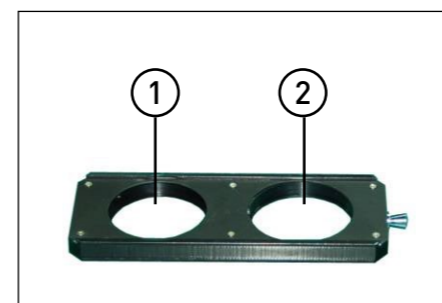

FIGURE 27
5.1.2 Phase contrast slider (Fig. 27)